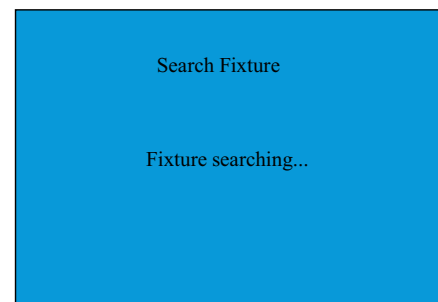

Figure C. 3
2. When enter into interface of Search fixture, it will hint whether to start to search fixtures; operation will be cancelled when choose "No" and controller will go back to previous interface;searching will start after choosing "Yes", and it will allot DMX addresses to all fixtures according to sequence of connection. Searching interface is as shown in Figure C.3.